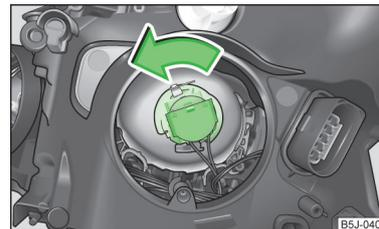

Fig. 163
- Turn the socket with the bulb to the stop in the direction of the arrow » Fig. 163 and remove it.